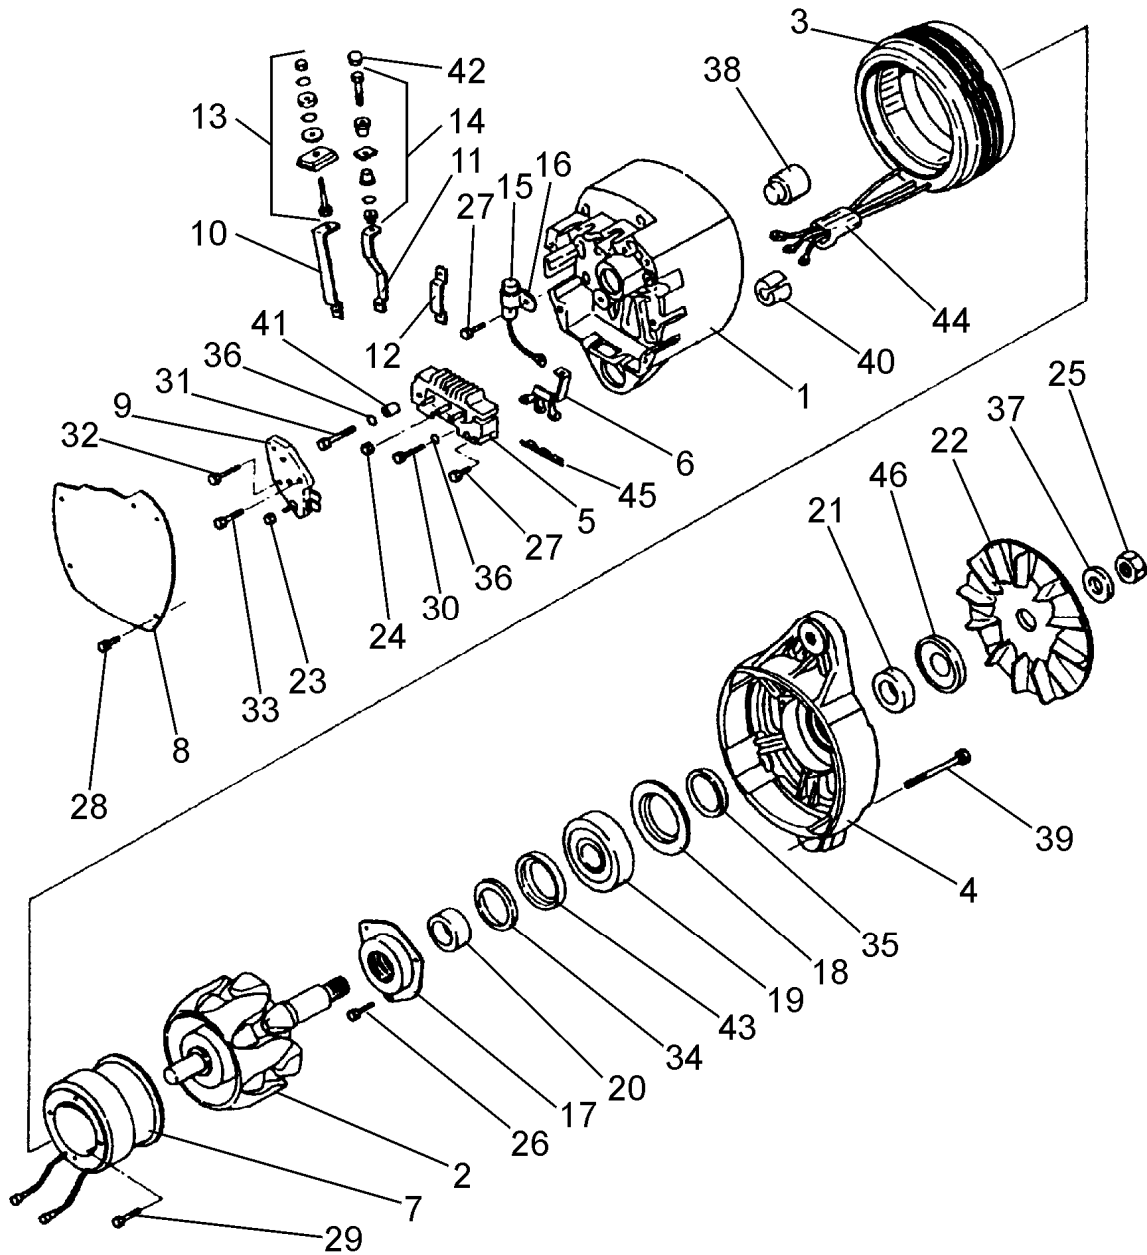

Fig. 8.10. Exploded View of Alternator
f. Disassembly and Repairing (Fig. 8.10)
Legend for Fig. 8.10